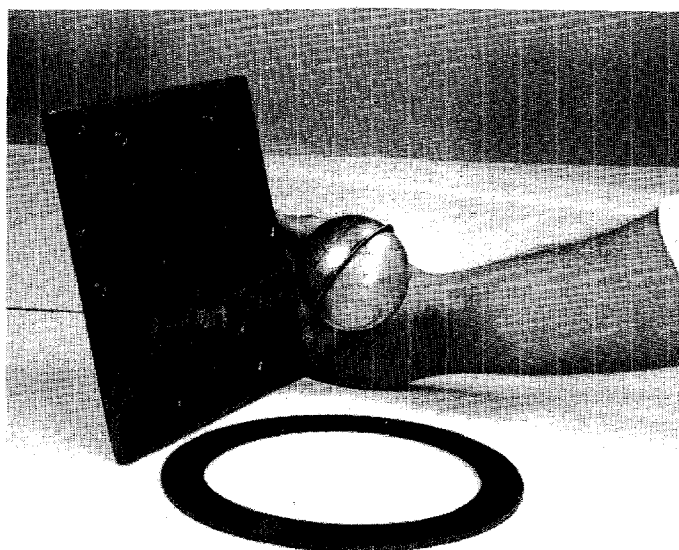

FIGURE 26 - Float Valve Assembly and Gasket
- b. Remove the end plate and gasket shown in Figure 26.